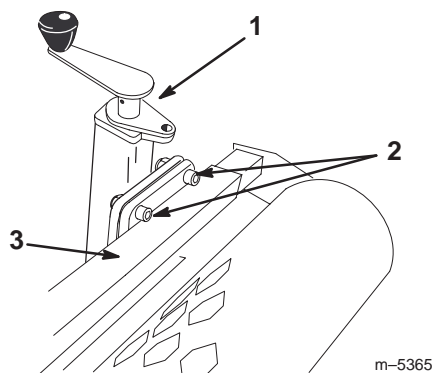

Figure 3
1. Loosen the 8 bolts and nuts securing the scraper to the soil cultivator (Fig. 3).
2. Remove and discard 4 bolts and nuts from one side of the scraper (Fig. 3).